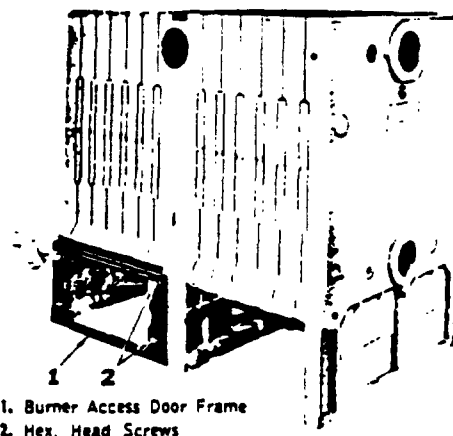

FIG. 6—Assembling Burner Access Door Frame
3. Fill grooves on back of burner access door frames with putty and attach frames to sections with hex head screws using washers under heads. Attach manifold brackets to front and back burner access door frames with hex head screws. See Fig. 6.